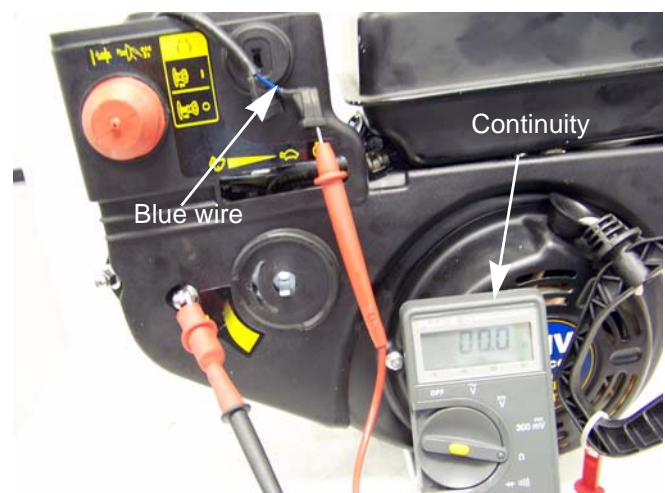

Figure 7.8
7. Connect the other lead of the multimeter to a good ground. See Figure 7.8.